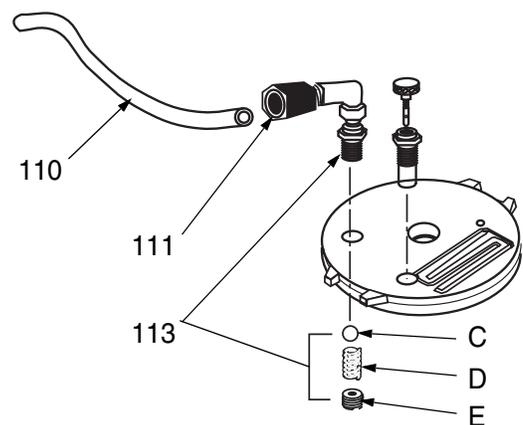

FIG. 4
4. After each use, check to see that the check valve(113) in the bottom of the pressure inlet elbow (111) is free of paint and debris. See FIG. 4. If necessary, unscrew check valve brass retainer (E) ring, remove spring (D) and ball (C) and soak in compatible solvent. Reassemble with small end of spring facing ball when inserted into elbow (111).